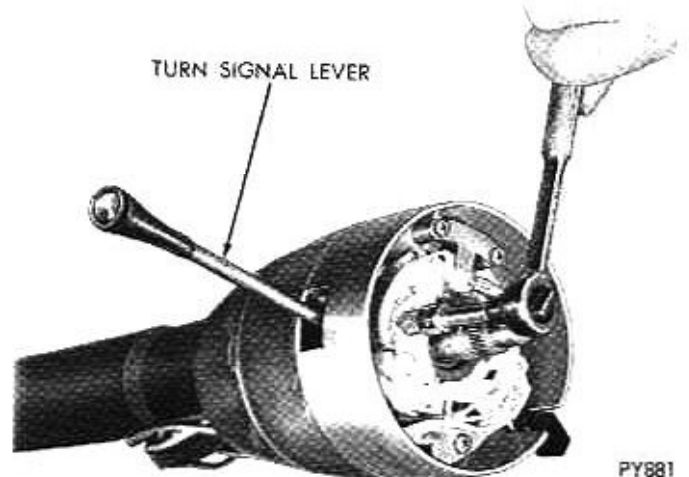

Fig. 4—Turn Signal Lever
(8) Remove turn signal lever (Fig. 4).
(9) Remove floor plate to floor pan attaching screws. Remove finish plate from under instrument panel to expose steering column bracket.